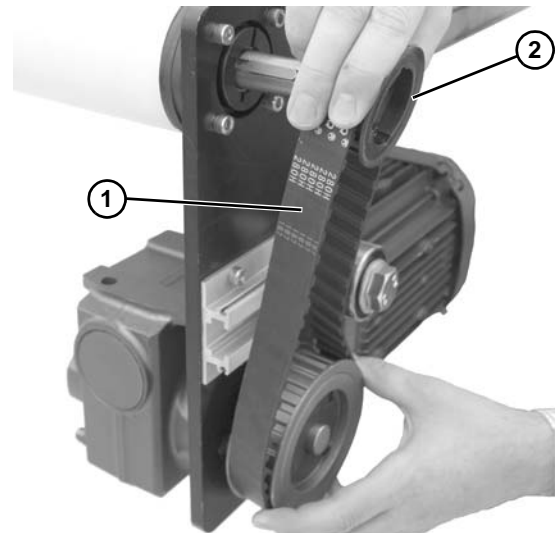

Figure 20
3. Remove timing belt (Figure 20, item 1).
<p>If timing belt does not slide over pulley flange, loosen driven pulley taper-lock screws (Figure 20, item 2) and remove pulley with belt (Figure 20, item 1). For re-installation, see steps 6 thru 8 on beginning on page 8.</p>